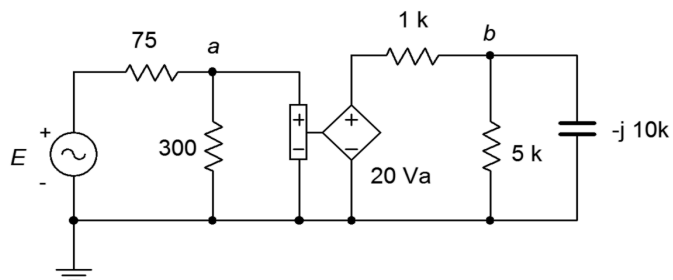

Figure 5.19
37. In the circuit of Figure 5.19, determine the current flowing into the 1 k resistor if the source $E = 6\angle 0^\circ$.
38. In the circuit of Figure 5.19, determine v_b if the source $E = 12\angle -90^\circ$.